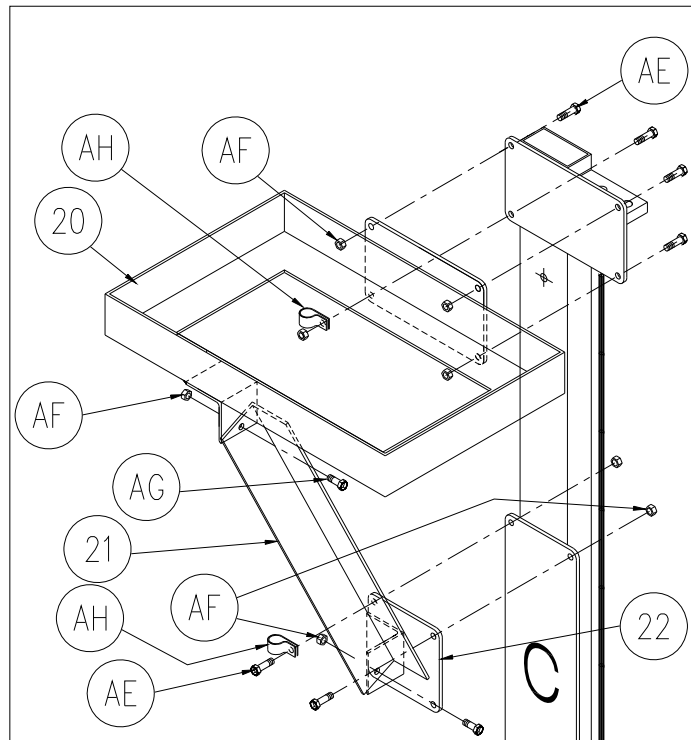

Figure 3-10
1. Refer to Figure 3-10. Install VL hydraulic power unit shelf frame to leg "D". Use fasteners AE, AF & AG to attach the shelf frame and diagonal brace.